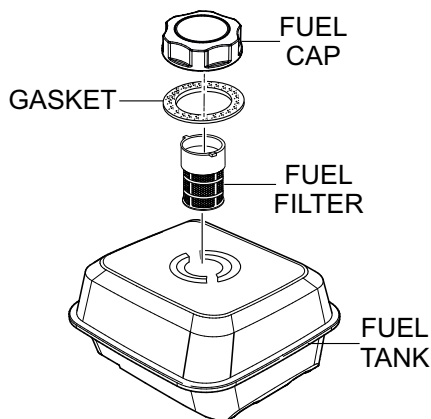

Figure 33. Fuel Strainer
3. Next, remove, inspect and clean the fuel filter (Figure 33) with solvent.